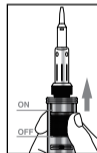

Fig.3
2. **Slowly** slide up the **ON/OFF Ignition Switch** (Fig. 3) to the "ON" position to start the flow of gas.